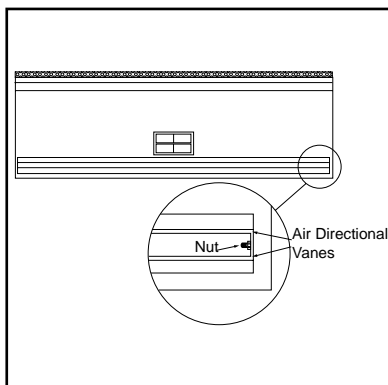

Figure 10
1. Loosen the two (2) nuts on each end of the outlet nozzle. Adjust the air directional vanes so the air flow split is in the proper location. **See Figure 10.**